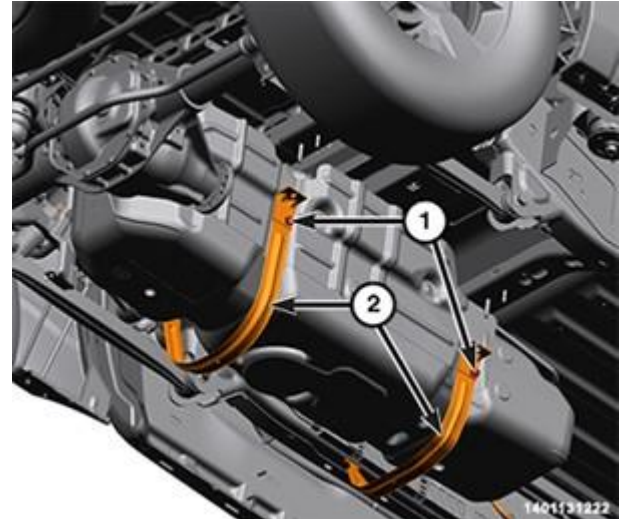

Figure 77 – Tank Straps
130. Connect the CCV hose heater wire harness connector (1) (Figure 77).
- 136. Remove the nuts (1) from the tank straps (Figure 77).
- 137. Remove both fuel tank straps (2) (Figure 77).